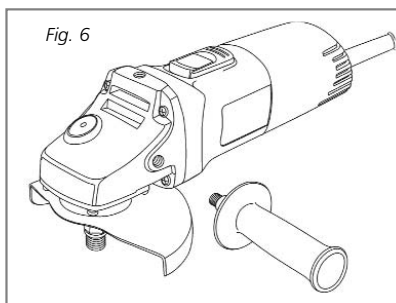

Fig. 6
• **INSTALAR LA MANIJA LATERAL (fig. 6)**